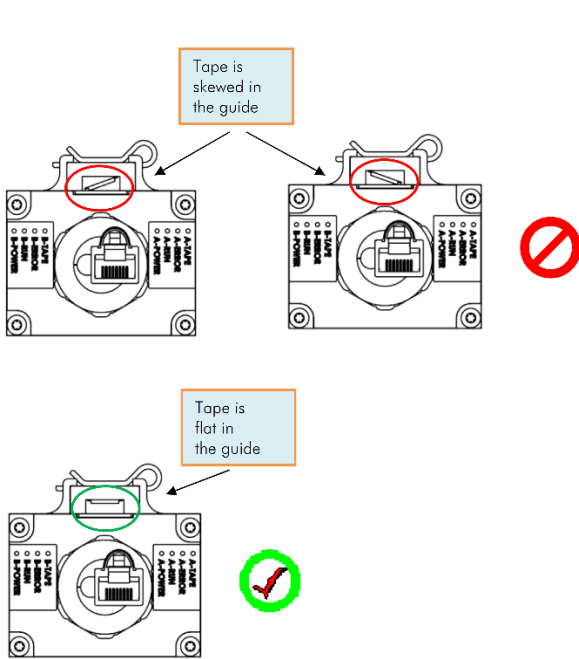
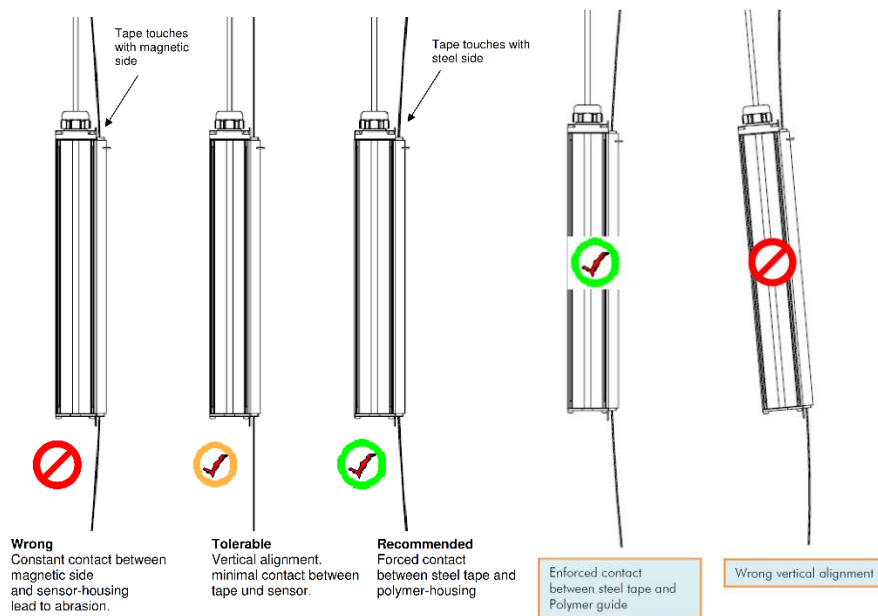

Figure 13: Angular Alignment Guideline
Figure 15: Horizontal Offset Alignment Guideline.
5. Adjust now the distance between sensor head and tape. Up to a travel height of 165ft, we recommend an offset of at least 0.6” (15mm). This will ensure steady contact between steel side of the tape and the polymer guide of the sensor. In higher installations this distance may be increased. (See Figure 15.)
7. Check for proper alignment of tape vs. sensor. Any angular offset should be corrected. (See Figure 13- Figure 15 above.)
Run an inspection trip the entire length of the hoistway. Observe the system paying attention to the respective positions of tape and sensor. You have achieved an optimal installation if the steel side of the tape is constantly but slightly pressed against the polymer guide of the sensor. At several points in the hoistway, double-check the bottom side of the sensor head. If the sensor is tilted it may look good on top but the tape can still grind along the bottom edge of the sensor. (See Figure 15.)